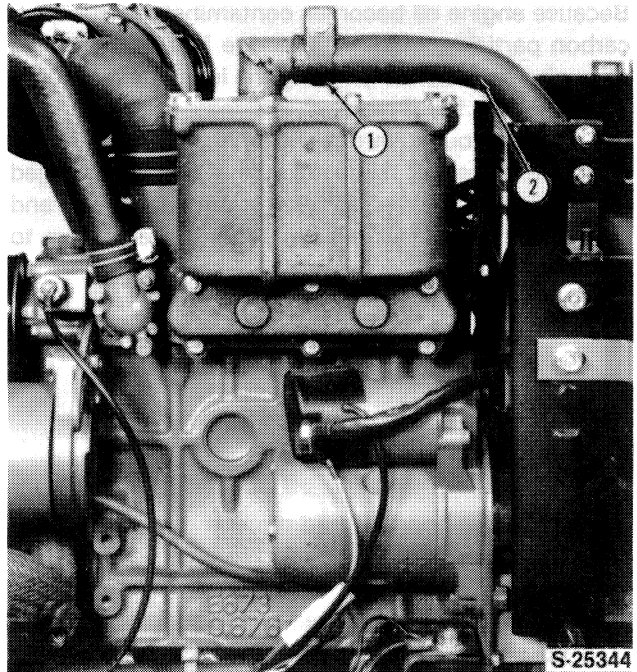

Figure 8
- 7. Loosen the exhaust pipe clamp (1) and remove the exhaust pipe (2), Figure 8.